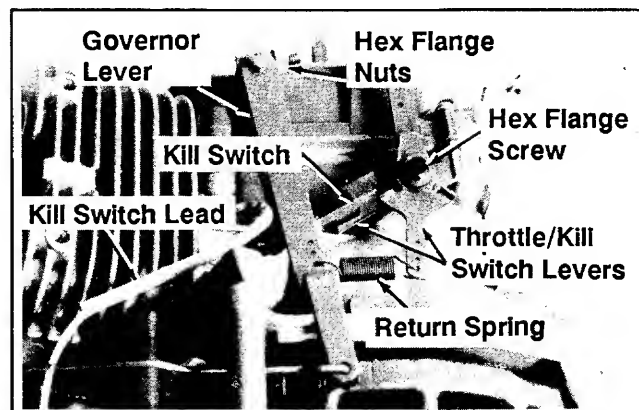

Figure 9-12. Removing Governor, Throttle, And Kill Switch Linkage
1. See Figure 9-12. Loosen hex. flange nut on governor lever and remove lever from governor shaft. Disconnect return spring from the governor lever.